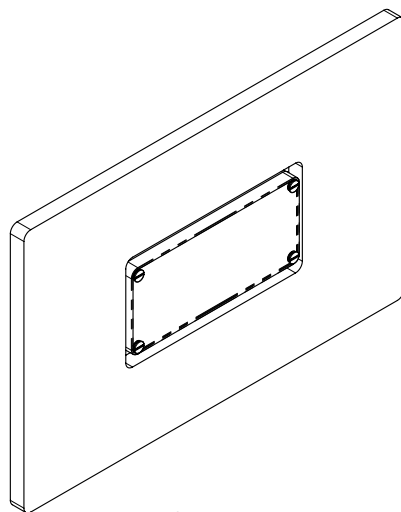

FIGURE 1
2. Mark and cut out section of drywall allowing approximately 1/2" clearance around the PQCF enclosure. (See Figure 1)